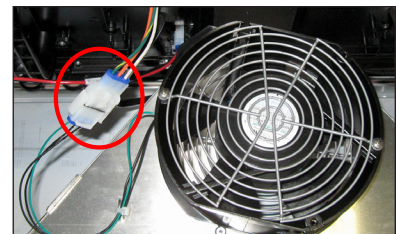

Figure 15: Fan Power Harness
1. Disconnect the power harness attached to the fan. Refer to **Figure 15**.